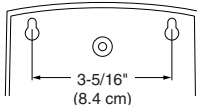

Figure 5
- Using keyholes on back of chime base, hang base on screws (see Figure 5).